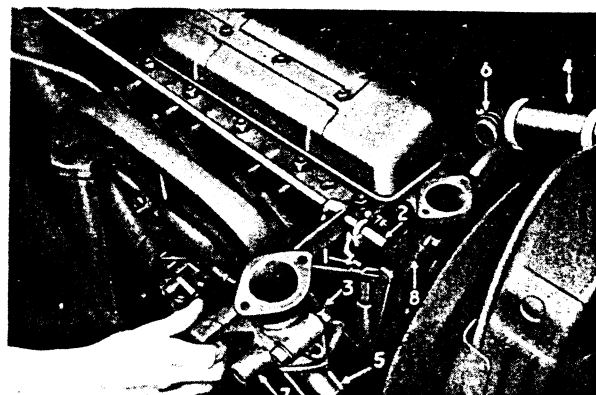

FIG. 6
### **Preparations for Lifting Cylinder Head (Fig. 6).**
9. Swing clear the assembly comprising thermostat body and water outlet elbow, pivoting on throttle rod, as shown in Fig. 6.
11. Using service wrench FTB2, remove manifold nuts. Pull manifold off its studs and leave suspended clear of cylinder head as shown in Fig. 6. Remove gaskets.